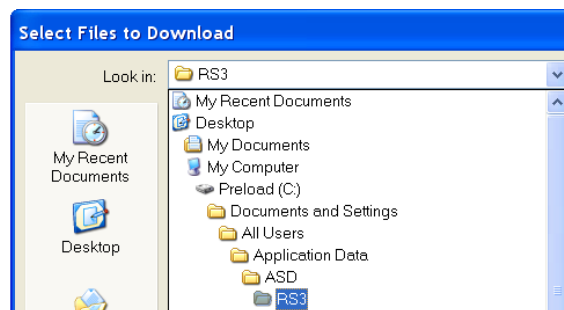

Figure 3-66: Calibration files in RS3 folder
Step 2 Navigate to the RS3 folder and select the files to be exported. Click OK for the export to take place (Figure 3-66).